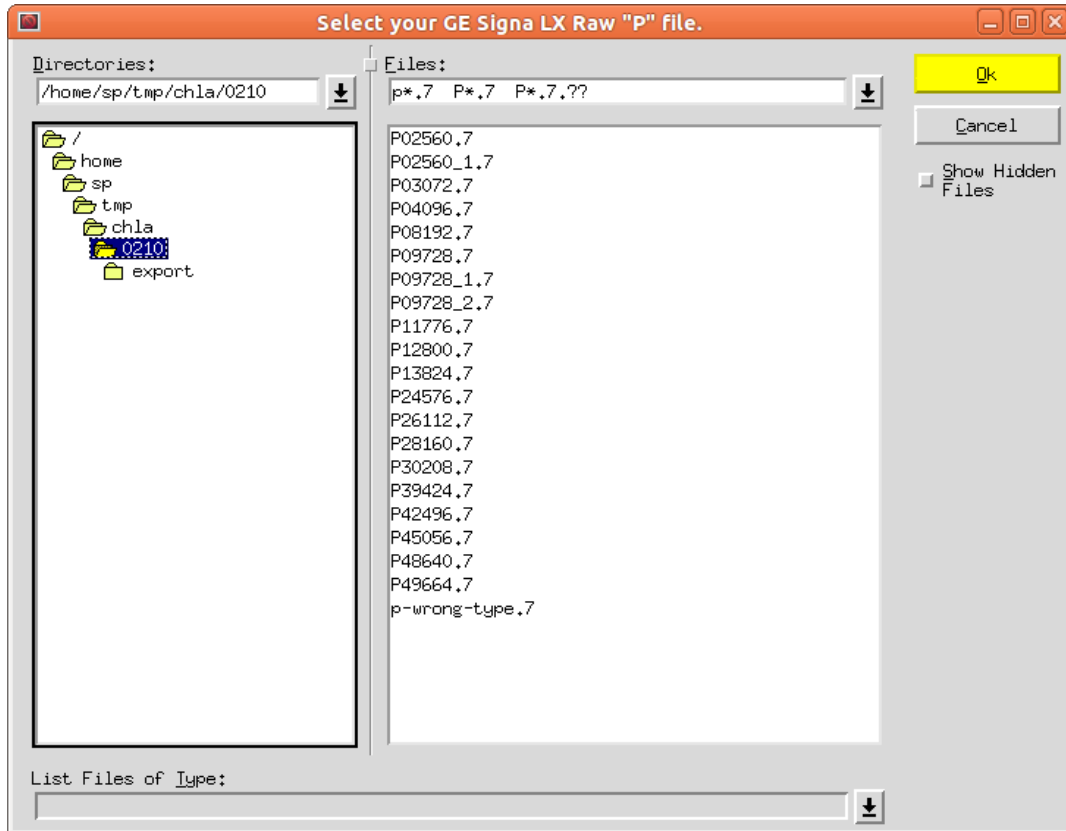
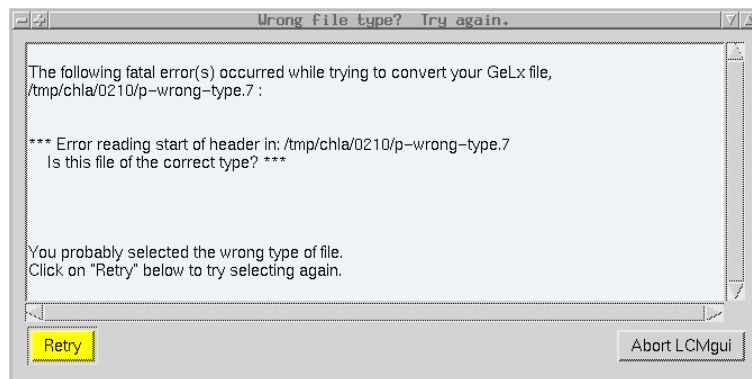
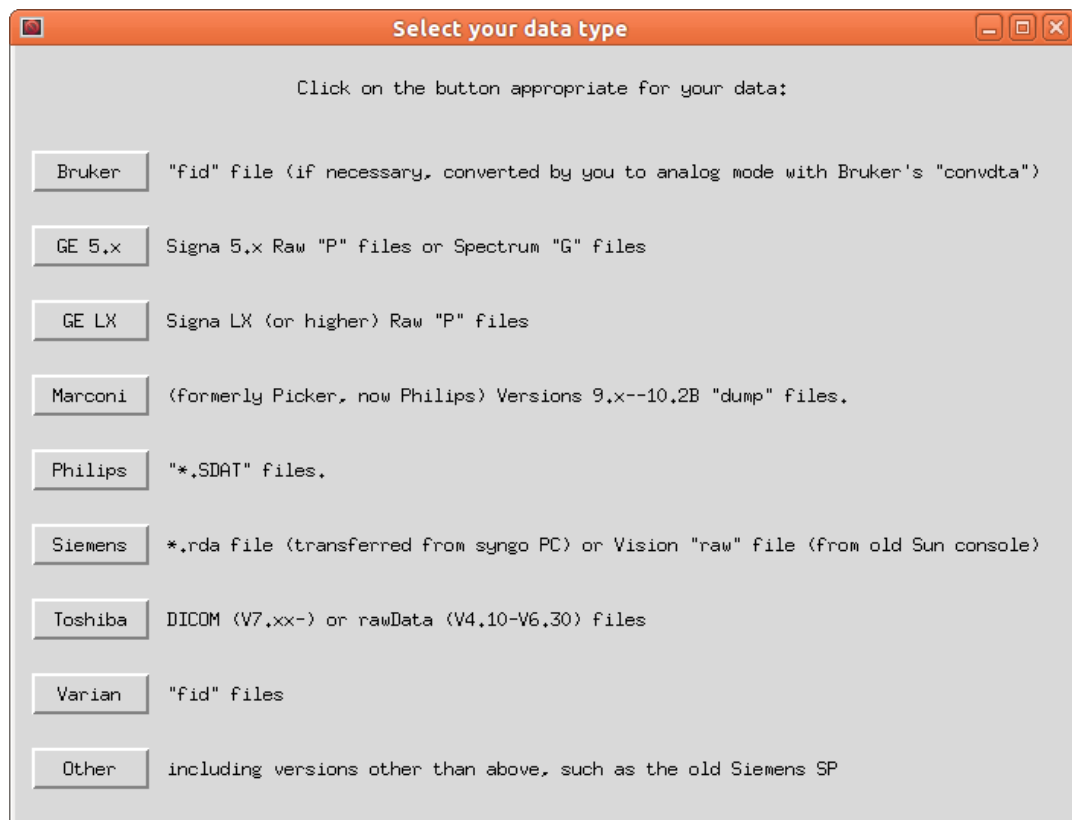
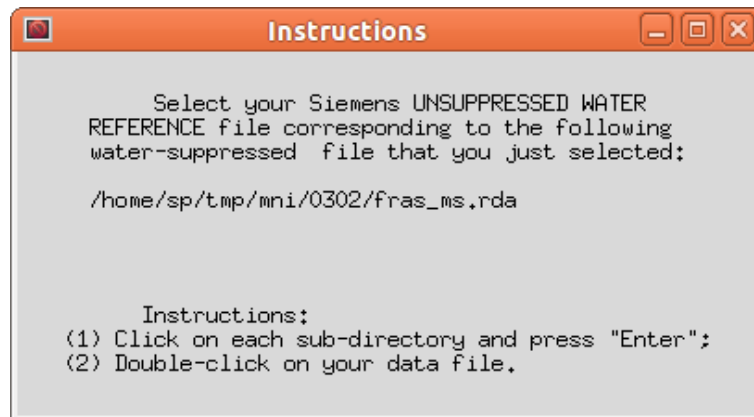

Figure 6.1: The File Selector, shown here for GE LX files
Figure 6.2: You selected a file of the wrong type in the File Selector
Figure 6.3: Note that GE Signa 5.x and LX (or higher) have distinct buttons.
Figure 6.5: The instructions-part of the File Selector for the unsuppressed water reference.
- Select the file containing the data to be analyzed (Fig 6.1 in Sec 6.2.1).
When LCMgui is started, the first window that appears is usually the *File Selector*. An example with GE Signa LX data is shown in Fig 6.1. With data from other manufacturers, the title, “Select your GE Signa LX ...” will be different. LCMgui remembers the directory where the data file was in the last run, and the File Selector starts there.
If the last LCMgui session did not use Bruker, GE, Marconi/Picker, Philips, Siemens, Canon/Toshiba or Varian data, then the window in Fig 6.3 will appear first. You normally then click the “Other” button in Fig 6.3, as you did in the previous session.
You first navigate through the directory tree. When you click on a directory, its files are listed in the right pane (the stage shown in Fig 6.1). You then click on the filename that you want to use and click the yellow “OK” button at the right (or simply double-click on the filename).
Only filenames that match the filter shown at the top of the pane of filenames (p*.7, P*.7 or P*.7.??) in Fig 6.1) are displayed. If your filename differs from this standard (e.g., if you analyzed GE Signa 5.x data last time and LX data this time), then it will not be listed. You can change
If the filenames or directories in Fig 6.1 are so long that they are cut off, then the width of the panes can be adjusted by holding the left mouse button down on the small square at the top on the pane boundary (between “**Directories:**” and “**Files:**”) and dragging the pane boundary. (You can also simply use the scroll bar that appears at the bottom of the pane when names are too long.)
LCMgui remembers what type of data was analyzed from this account and User Profile the last time, and it expects the same type this time. You therefore get a window like Fig 6.2 if in the File Selector you:
- Select a completely irrelevant file (e.g., `p-wrong-type.7` in Fig 6.1 to produce Fig 6.2).
Otherwise, click the yellow “Retry” button in Fig 6.2. A window like Fig 6.3 appears. Here you click on the appropriate type of data. The File Selector then returns, giving you another chance to select your data file.
Select unsuppressed water reference file If the “Do eddy-current correction” button is active (blue), the File Selector window appears (unless you have Marconi/Picker files or GE Probe P-files, which already contain the water reference). It is exactly as in Fig 6.1, except for the window of instructions at the upper left (Fig 6.5). As you can see from Fig 6.5, the filename of your currently selected water-suppressed data is shown, and you must select the corresponding unsuppressed data file.
- (1) **File Selector.** You select the file containing your (binary scanner) data to be analyzed with the window in Fig 6.1.
- (2) **Data Conversion.** A program is executed to produce the LCModel `.RAW` file and any available Control Parameters (e.g., `NUNFIL`, `DELTAT`) from the file selected in Step (1). You can specify this program to be the standard LCMgui program for the standard Bruker, GE, Marconi/Picker, Philips, Siemens, Canon/Toshiba or Varian files (Sec 3.7). However, there is also an “Other” button to use a script supplied by you for another type of file.
- (3) **Preprocessor.** Even if you specify one of the standard programs for Step (2), you can still supply your own script in this step to modify the `.RAW` file or Control Parameters from Step (2). (The original default, when LCMgui is installed, is to use no Preprocessor.)